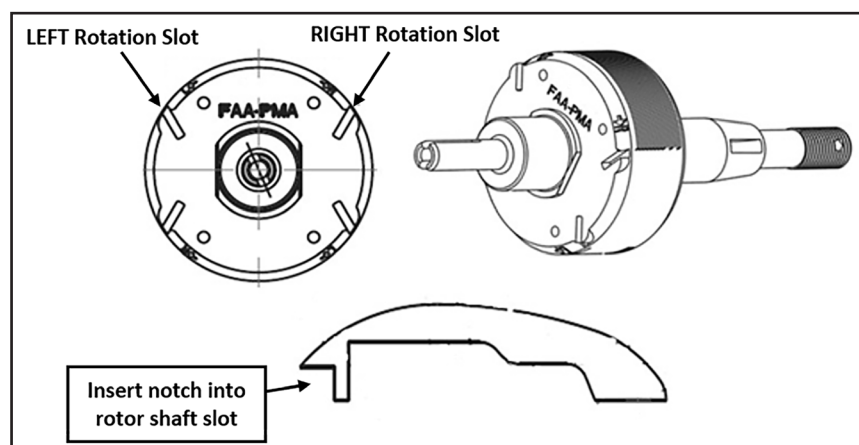

Figure 6.9 – Rotation Slot Locations
- (1) Remove the degree wheel portion of the ES125T Assembly Base.
- (2) Remove the T-handle screw assembly portion of the ES125T Assembly Base.
- (3) Insert the magneto into the ES125T Assembly Base.
- (4) Align the magneto so that the ignition coil (17) is in the 12 o'clock position with the stop pin in the ES125T Assembly Base on the left side of the magneto frame.
- (5) Identify the location of the magneto frame (6) laminations that contact the laminations in the center of the ignition coil (17).
- (6) Identify the location of the slots in the rotating magnet marked "L" and "R". Refer to Figure 6.9.